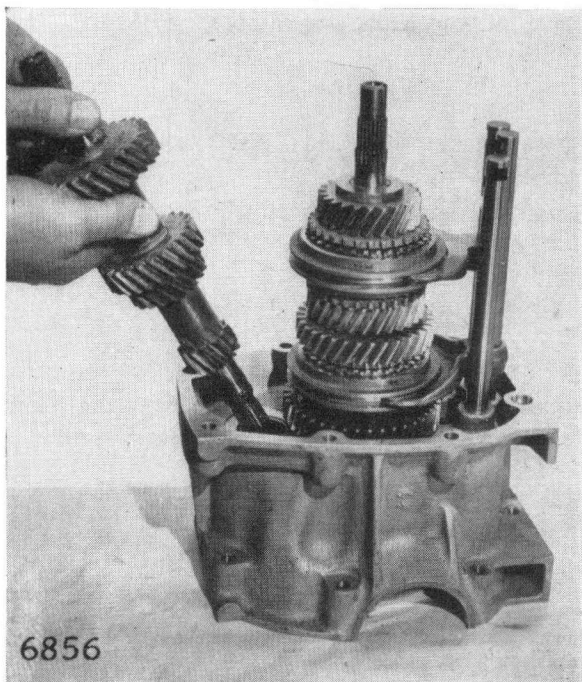

Fig. 17. Removing input shaft cluster
Lift out the input shaft cluster (42) as shown in Fig. 17.